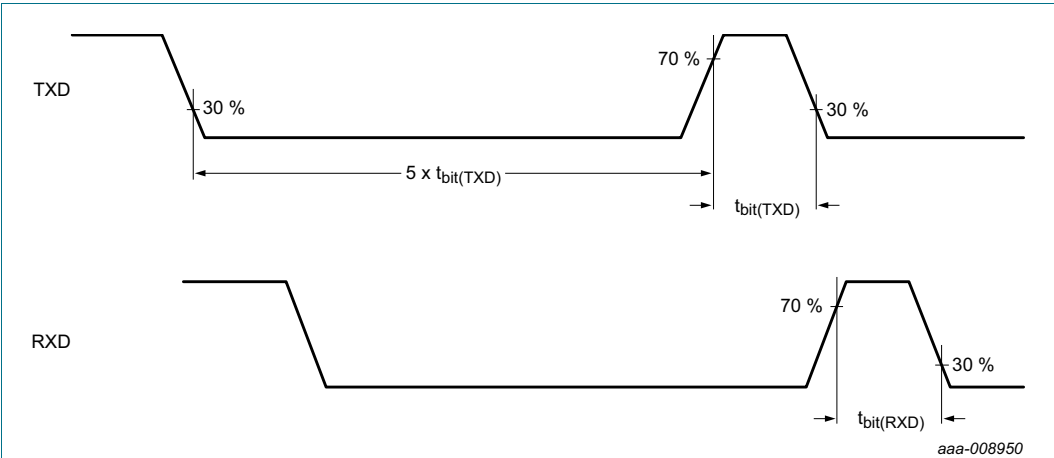

Fig 14. Loop delay symmetry timing diagram
- [2] See Figure 14.
Modifications:	• Section 1: text revised (3rd paragraph added) • Section 2.1: feature added (loop delay symmetry) • Table 2: table note amended • Section 6.1.1.4: last paragraph added • Section 6.1.1.6: text revised (3rd paragraph) • Section 6.1.1.7: text revised (4th paragraph) • Table 3: row CAN revised • Section 6.2.2: text revised • Section 6.3.1: text revised • Section 6.3.2: text revised • Section 6.7: text and state diagram revised • Table 14: description for bits CMC revised • Table 15: description for bit CTS revised • Table 16: bit reference corrected • Section 6.11.3: note added at beginning of section • Section 6.16.1: text revised (4th last paragraph); last paragraph added • Table 59: symbols and parameters revised for pins V1 and VEXT; parameters $t_{to(SPI)}$ and $t_{bit(RXD)}$ added; additional measurement for parameter $t_{d(TXD-RXD)}$; parameter $t_{fltr(rst)}$ renamed to $t_{w(rst)}$ and value changed; parameter values changed: t_{wake} for pin WAKE • Figure 14: added • Section 11.2: added • Section 12.1: text updated